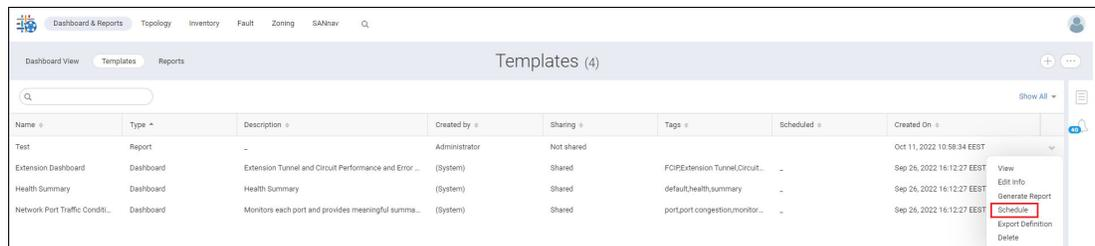

Figure 5-142 Schedule Report
2. Find the report template and click **Schedule** on the down arrow to the right of the table entry (Figure 5-142).